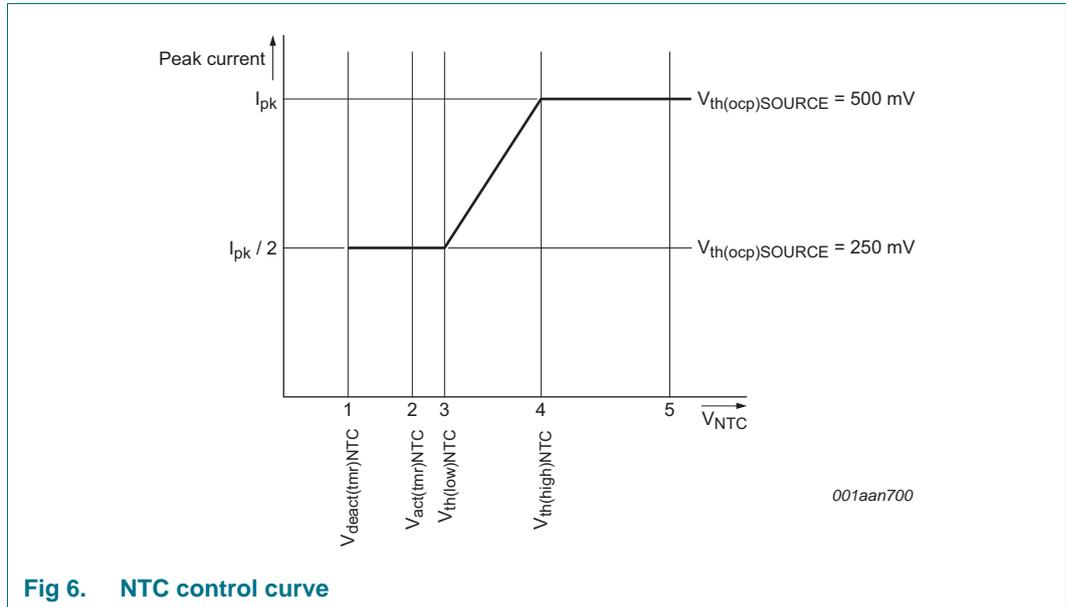

Fig 6. NTC control curve
The NTC pin can be used as a control method for LED thermal protection. Alternatively, the pin can be used as an input to disable/enable light output using a digital signal (PWM dimming). The pin has an internal current source that generates the current of $I_{\text{offset(NTC)}}$. An NTC resistor to monitor the LED temperature can be directly connected to the NTC pin. Depending on the resistance value and the corresponding voltage on the NTC pin, the converter reacts as shown in Figure 6.
When the voltage on the NTC pin exceeds $V_{th(high)NTC}$ (see Figure 6 \(4\)), the converter delivers nominal output current. When the voltage is lower than this level, the peak current is gradually reduced until $V_{th(low)NTC}$ is reached (see Figure 6 \(3\)). The peak current is now half the peak current of nominal operation. When $V_{act(tmr)NTC}$ is passed (see Figure 6 \(2\)) a timer starts to run to distinguish between the following situations:
- If the low-level $V_{deact(tmr)NTC}$ is not reached within time $t_{to(deact)NTC}$ (see Figure 6 \(1\)) LED overtemperature is detected. The IC stops switching and attempts to restart from the HV pin voltage. The converter restarts from an NTC protection shutdown when the voltage on the NTC pin exceeds $V_{th(high)NTC}$ (see Figure 6 \(4\)). It is assumed that the reduction in peak current does not result in a lower NTC temperature and LED OTP is activated.
- If the low-level $V_{deact(tmr)NTC}$ is reached within the time $t_{to(deact)NTC}$ (see Figure 6 \(1\)) it is assumed that the pin is pulled down externally. The restart function is not triggered. Instead, the output current is reduced to zero. PWM dimming can be implemented this way. The output current rises again when the voltage is higher than $V_{th(low)NTC}$.
The NTC pin can be used to make a soft start function. During switch-on, the level on the NTC pin is low. By connecting a capacitor (in parallel with the NTC resistor), a time constant can be defined. The time constant causes the level on the NTC pin to increase slowly. When passing level $V_{th(low)NTC}$ (see Figure 6 \(3\)), the convertor starts with half of the maximum current. The output current slowly increases to maximum when $V_{th(high)NTC}$ (see Figure 6 \(4\)) is reached.